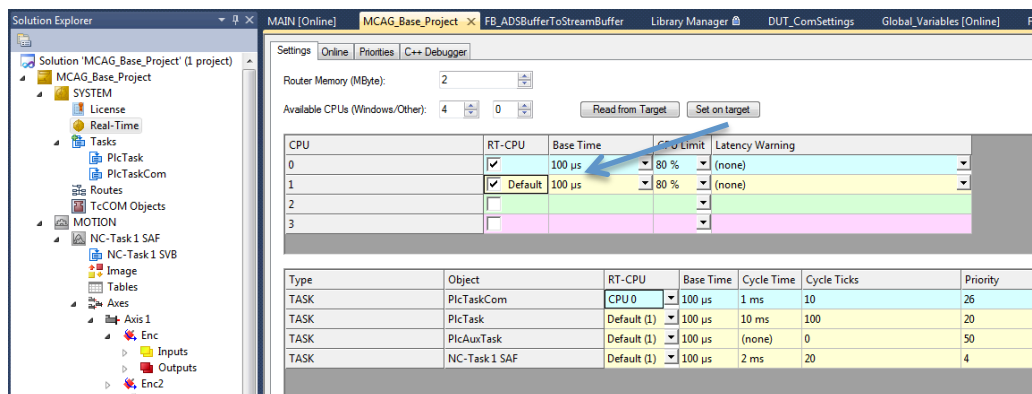

Figure 23: Real-Time settings
- Reduce the base time setting to 1ms for slower systems, Figure 23.